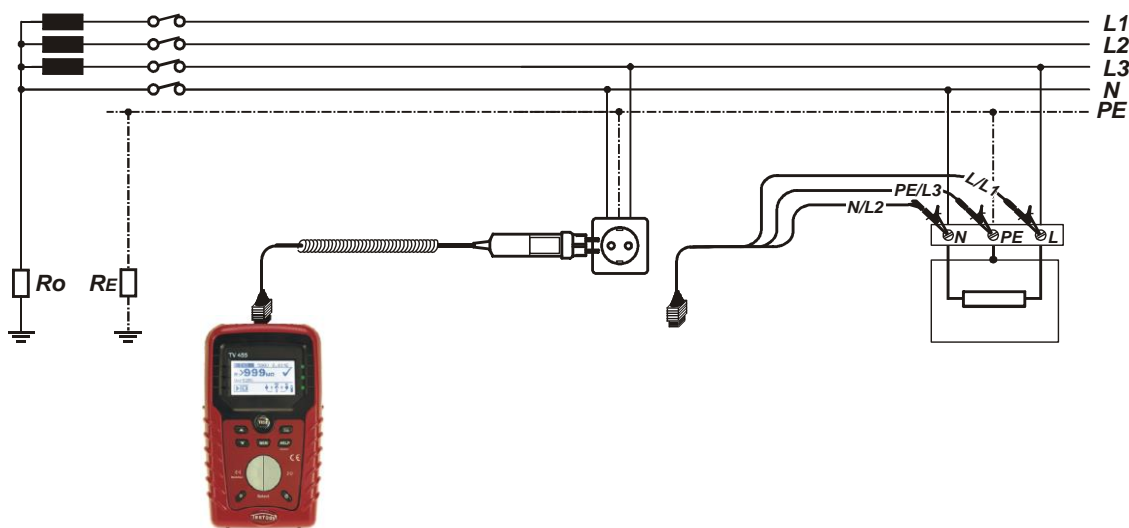

Figure 5.24: Connection of plug cable and 3-wire test lead
- ❑ **Connect** test leads to the item to be tested (see *figure 5.24 and 5.17*).